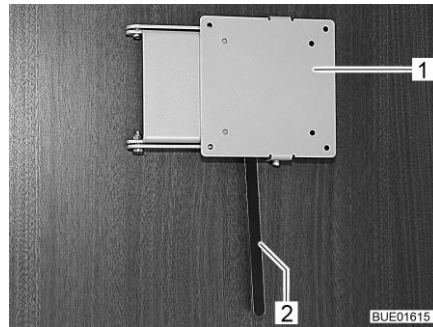

Fig. 93 Holder with release lever
- Push the release lever (Fig. 93,2) to the side and turn the holder (Fig. 93,1) with the flat screen to the desired position.
- Turn flat screen back until the holder (Fig. 93,1) engages in the lock.